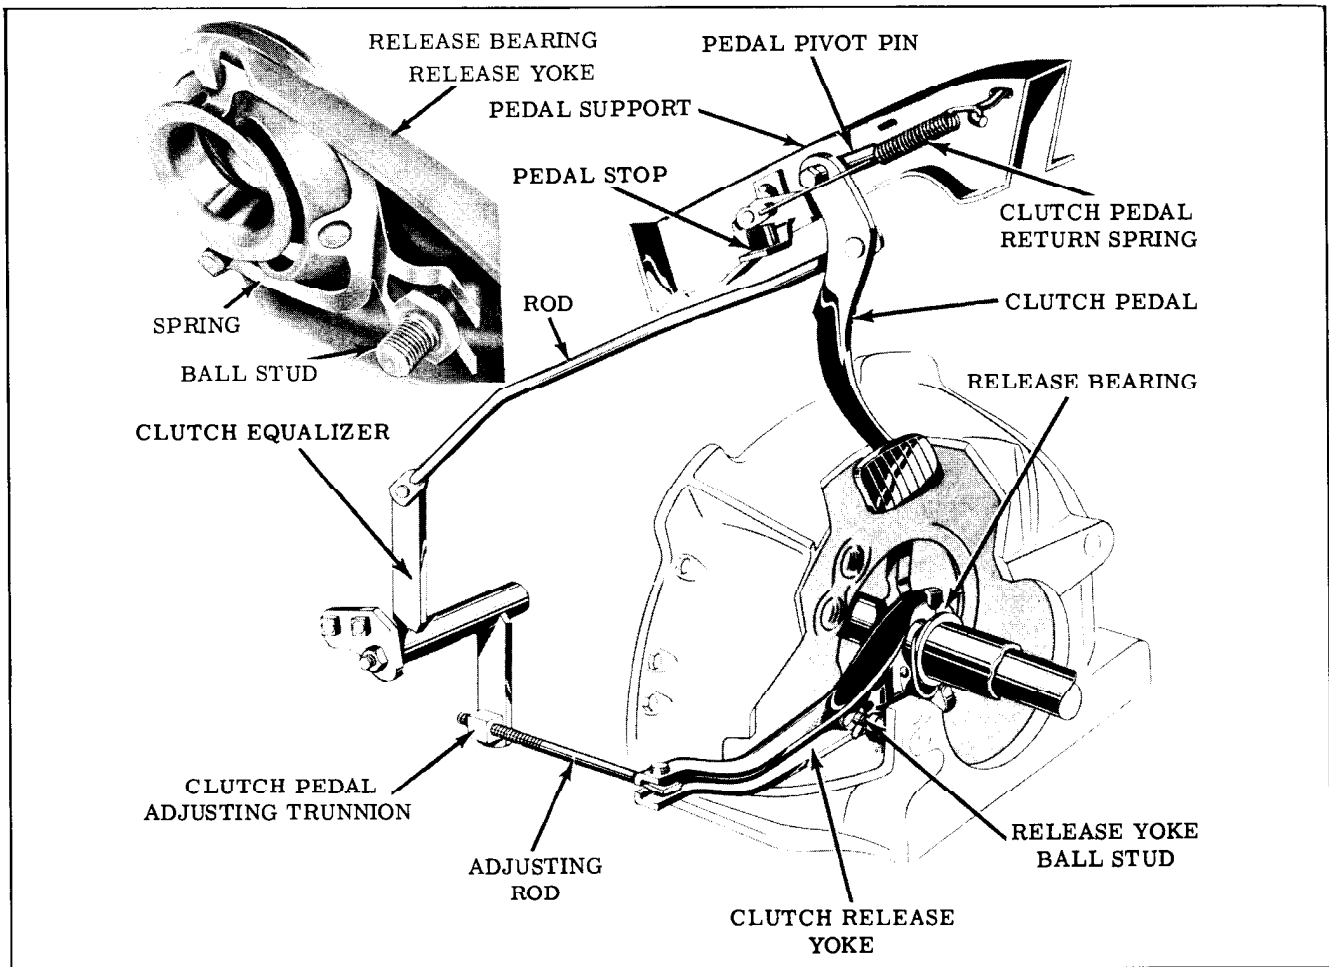

Fig. 10-22 Clutch Mechanism
2. Adjust the lower clutch control rod in and out of the trunnion nut to obtain 7/8" to 1" free travel at the clutch pedal. (Fig. 10-22)